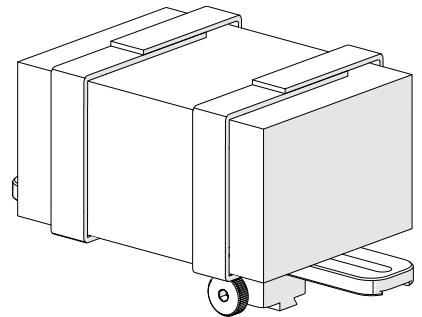

Fig. 190 - Velcro wrapped around preamp
3. Secure the preamp to the bracket attaching each side of the velcro (Fig. 190).